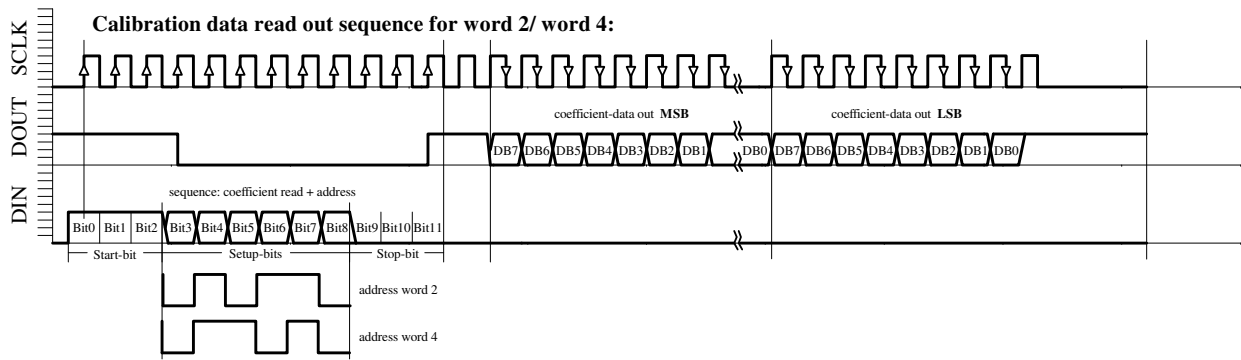

Fig. 6d: Word2, Word 4 READING sequence.
- Calibration data read-out sequence for Word2 (Figure 6d)
- Calibration data read-out sequence for Word4 (Figure 6d)